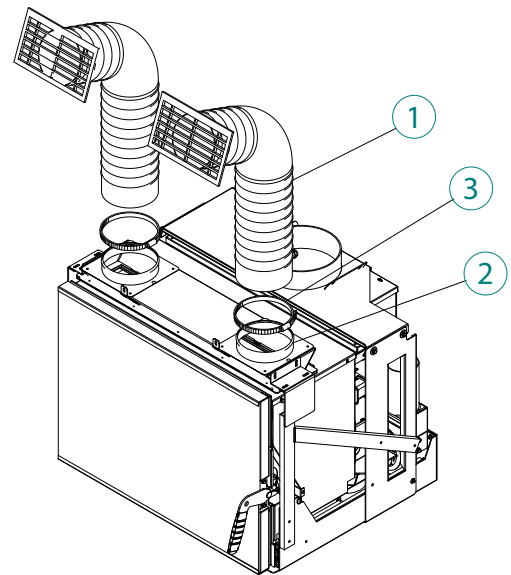

fig. 6.3.2
Fasten the flexible pipe (1) on rings (3) by means of clamping bands (1) (fig. 6.3.2).